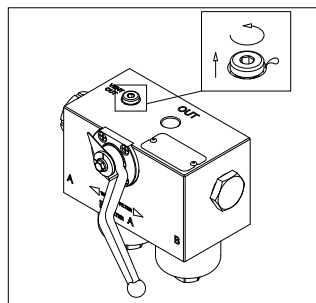

fig. 3
- (Fig. 3) Bleed the possible air from the system by loosening the "Vent OUT" breather plug by a maximum of one turn, until the operating fluid starts oozing